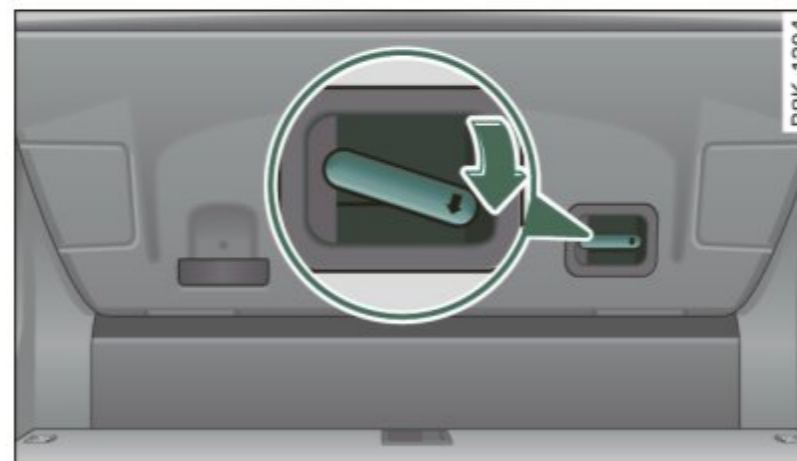

Fig. 43 Trunk escape handle: view from inside the closed trunk
- Pull the handle down towards the bumper ⇒ fig. 43.